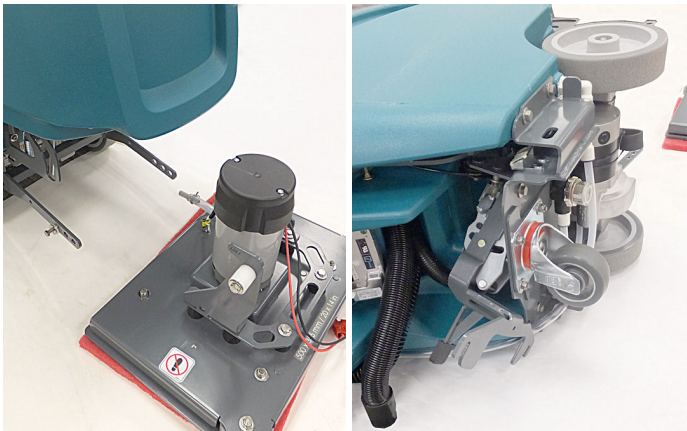

Fig. 19
- Remove the scrub head from machine. On a non-marring surface, with assistance, carefully lay the machine on its left side (Figure 19).